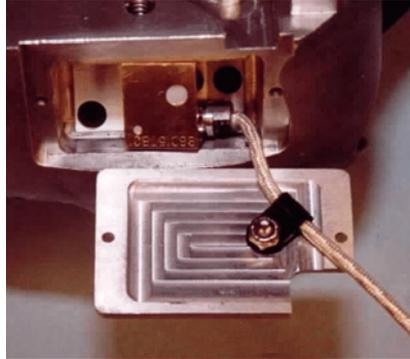

Figure 11.19- Strain relief
- Secure the triaxial accelerometer wires to the inside of the Pelvis Triaxial Cover (T1PLM111) using a 1/8" wire clamp, a #6-32 x 1/2" FHSCS and a #6-32 nylock nut, as shown in **Figure 11.19**. These wires are then joined to the bundle of wires at the base of the spine.